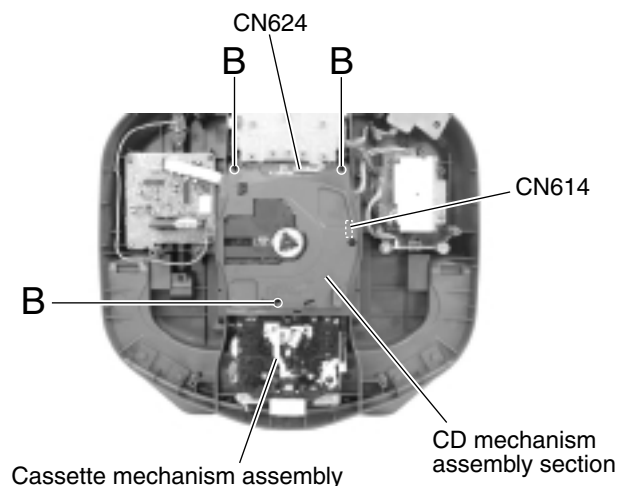

Fig.2
■ Removing the CD mechanism assembly section (See Fig.2)